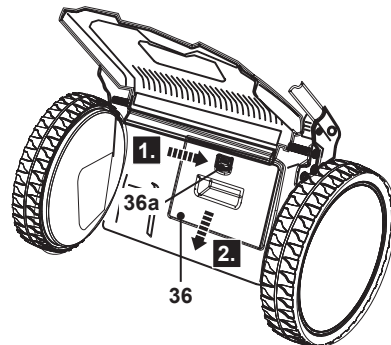

Fig. 20
2. Squeeze the locking latch (36a) and hold it in position, then remove the mulching insert (36) from the rear discharge chute (34) (Fig. 20).